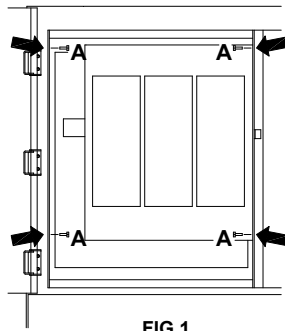

FIG.1
1. After 15 minute capacitor discharge time, remove front barrier, four "A" bolts. Figure 1.